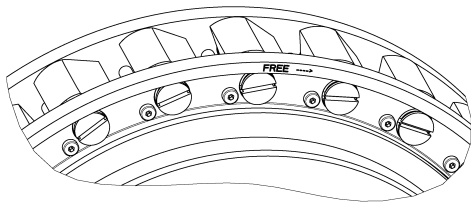

Figure 4: Clamp bodies “neutral position“
- Lift the inner race (2) including the cage (8) out of the outer race (1). Use appropriate lifting gear at the threaded hole of the inner race for this.
- Place the inner race (2) including the cage (8) facing downwards the label "FREE" on an assembly table.
- Secure (see Fig. 4 and 5) the clamp bodies in lift-off position (against the spring force) using an O-ring / cable connector as an assembly aid.
- Insert the inner race (2) with cage (8) into the outer race (1), until half of the clamp body is covered.